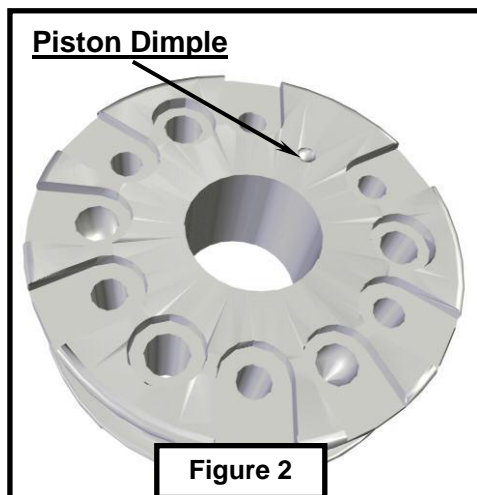

Figure 2
5. With shaft still in the vise, assemble the compression valving, piston, and rebound valving. The compression valve stack is on the bottom of piston and the rebound valve stack on top. It's important that the piston is positioned with the dimpled side up facing up. (See figures 2,3)